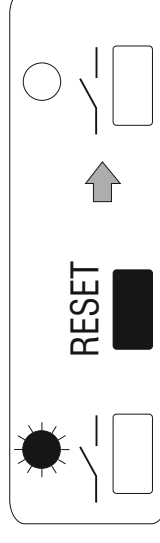

Fig. 5
- Briefly press the “**Reset**” **key**; when released the temporary forced control is cancelled (fig.5).